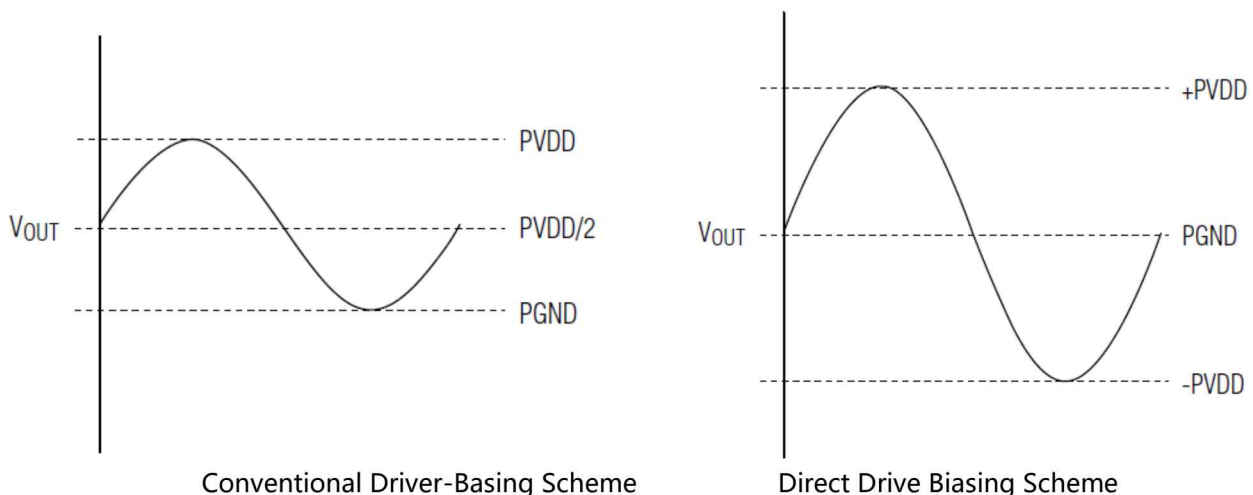

Fig. 1 Conventional Driver Output Waveform vs. HT97220(L) Output Waveform
The HT97220(L) operates from a single supply ranging from 2.5V to 5.2V. An on-chip charge pump inverts the positive supply (PVDD), creating an equal magnitude negative supply (PVSS). The headphone amplifiers operate from bipolar supplies with their outputs biased about PGND (Figure 1). The benefit of this PGND bias is that the amplifier outputs do not have a DC component, typically PVDD/2. The large DC-blocking capacitors required with conventional headphone amplifiers are unnecessary, thus conserving board space, reducing system cost, and improving frequency response. Output power of 125mW into 32Ω is achievable from a 5V supply. The device features an under-voltage lockout that prevents operation from an insufficient power supply and click-pop suppression that eliminates audible transients on startup and shutdown.